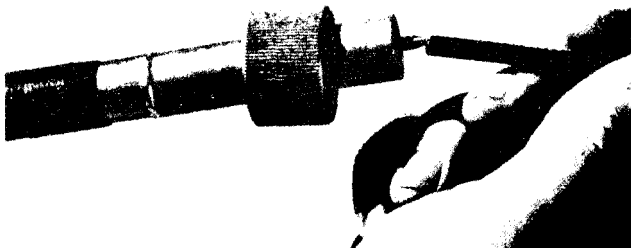

Figure 5. Pushing Flexible Shaft into Casing
- b. Remove screw on right side of drive roll housing (Fig. 5).